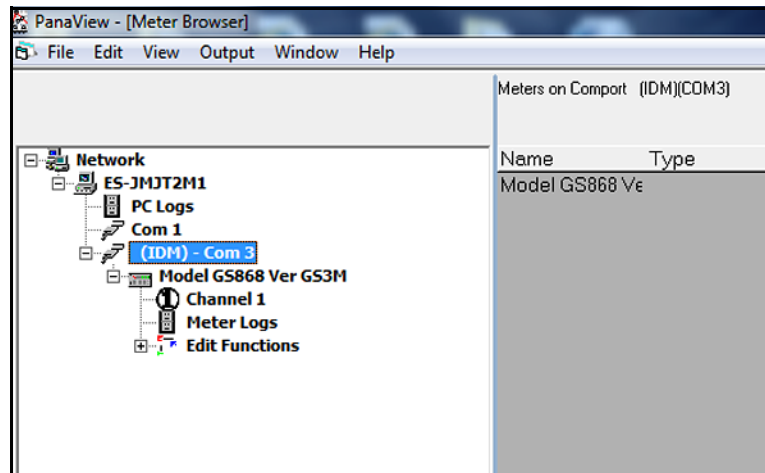

Figure 50: The Serial Port Branch
2. Fully expand the *network tree* and highlight the chosen communication port (see *Figure 50* below).